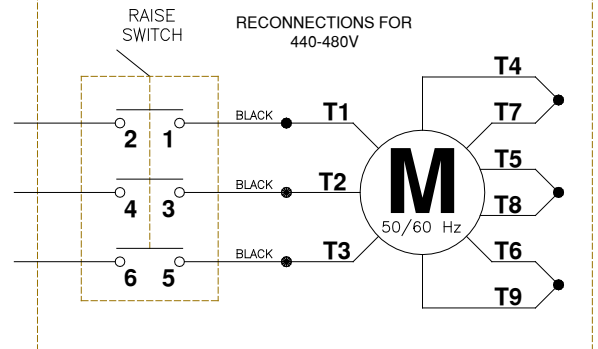

Fig 9 – Electrical Wiring Diagram
- 30) Refer to **Fig 9 Wiring Diagram** for all steps under this heading.